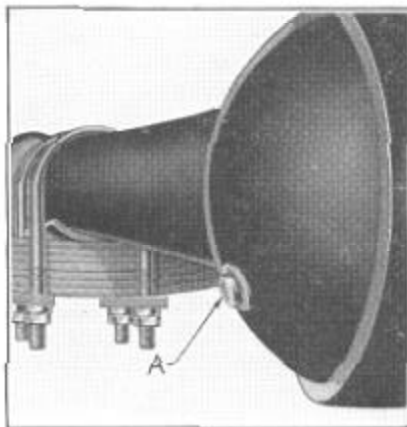

Figure 23
It is advisable to change rear axle lubricant every 5,000 miles. Always keep oil to the level of oil filler plug (A), Figure 23. The old lubricant can be removed with a special suction gun available for this purpose. Refill with two and three-quarter pounds (or pints) of fresh oil of proper specifications. Replace filler plug securely.